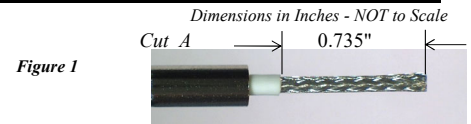

Figure 1
- 1) Cut cable end squarely, re-form to concentric shape. Install ATUM 12/3 shrink tube and crimp ferrule onto the cable as shown (Fig. 1). Make Cut A @ .735" from cable end, scoring the jacket only (Fig. 1). Do not nick or cut into braids. Remove the jacket.